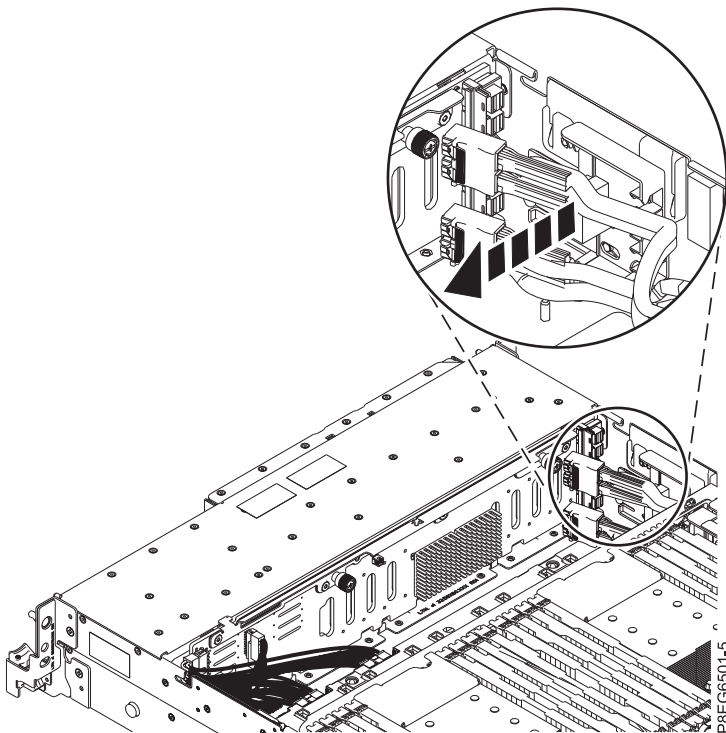

Figure 2. Unseating the front SAS cables
7. Unseat the front SAS cables from the cable guide on the side of the system chassis, as shown in Figure 2.